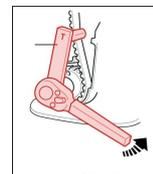

FIG. 2
- Specific tool for the belt (FIG. 2)
- 8 Mount the specific tool for the belt [FIG. 2] and apply 10 Nm to the left.